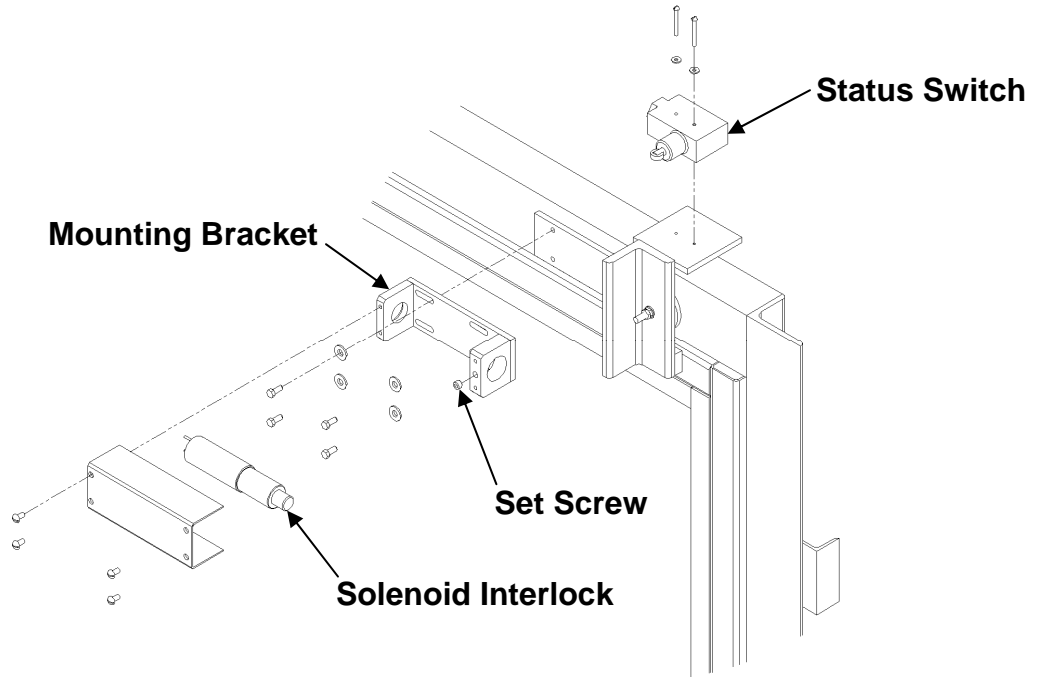

Figure 8 – Single Swing Solenoid Interlocks
12. If using solenoid interlocks, attach the gate status switch(s) to the switch mounting plate (see **Figure 8**). Assure that the magnet latch holds the panel in position until the interlock engages. Verify that the switch lever arm contacts the gate panel to assure the closure of the switch contacts.
Solenoid type interlocks will require the installation of a gate status switch. The purpose of this switch is to “prove” that the gate is closed and in a position to accept the interlock bolt in the striker. Single swing gates require a single switch (see **Figure 8**).
1. After checking the gate for proper operation, attach the solenoid mounting bracket to the mounting pad on the gate header angle with four ¼" –20 UNC screws that have been supplied (see **Figure 8 and 9**).
4. Using the two 6-32 screws that have been supplied, mount the gate status switch to the status switch mounting plate on the header angle (see **Figures 8 and 9**).